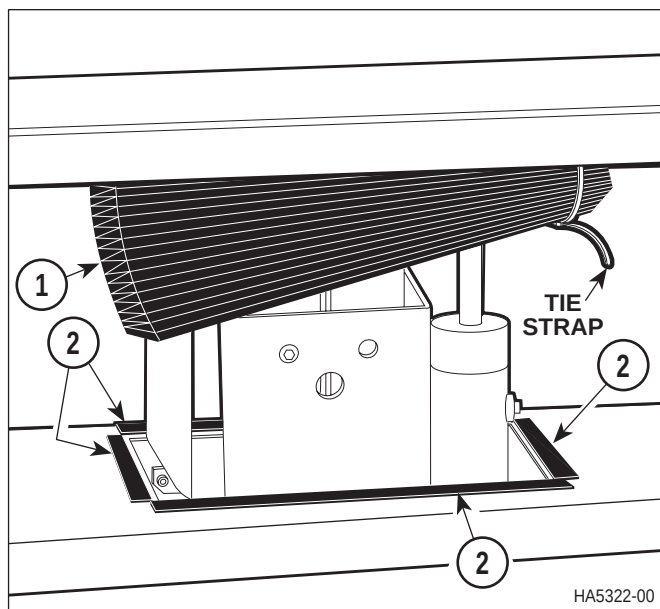

Figure 4-2. Raise Bellows For Access
- (1) Pull the bottom of the bellows (1, Figure 4-2) up from four velcro strips (2).